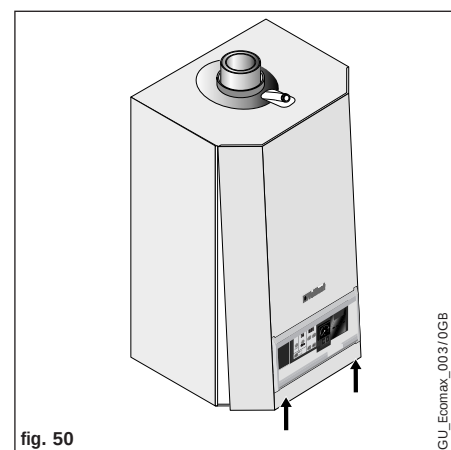

fig. 50
- Remove the front casing by easing forward the bottom edge and gently lifting (fig. 50).